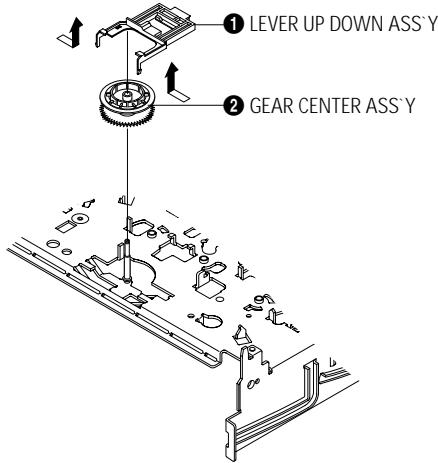

Fig. 4-26 Lever Up Down Ass'y Removal
- 1) Remove the 2 hooks in the direction of arrow as shown Fig. 4-26 and lift the Lever Up Down Ass'y ①.
- 2) Lift the Gear Center Ass'y ②.